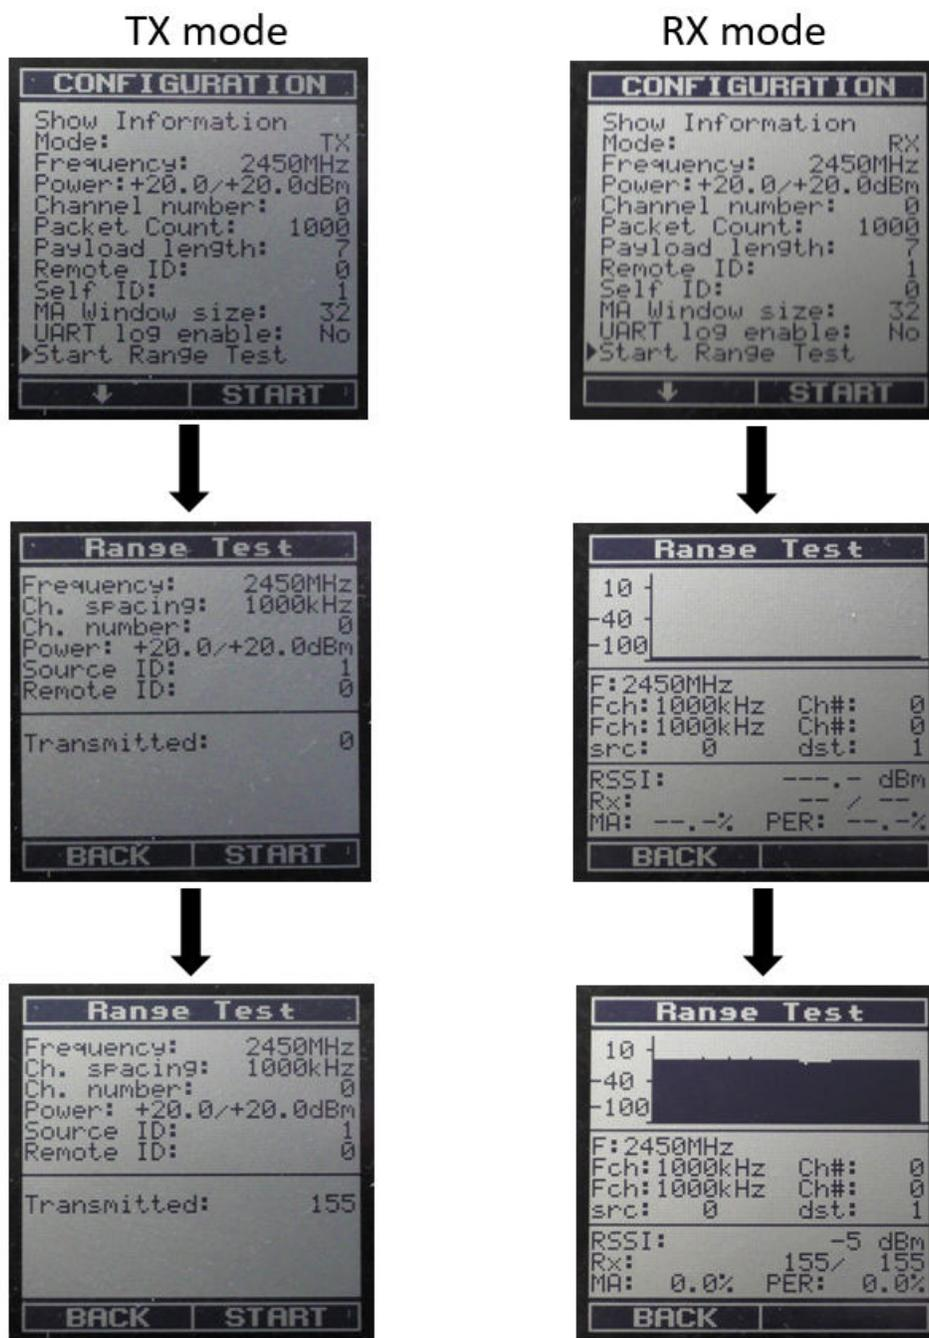

Figure 3.3. Configure and Operate the Range Test
5. Configure the range test through the menu items. It is important to set the self- and remote-IDs of the participants correctly. Then start the test in the [**Start Range Test**] menu item on both devices. (See Figure 3.3 Configure and Operate the Range Test on page 12.)